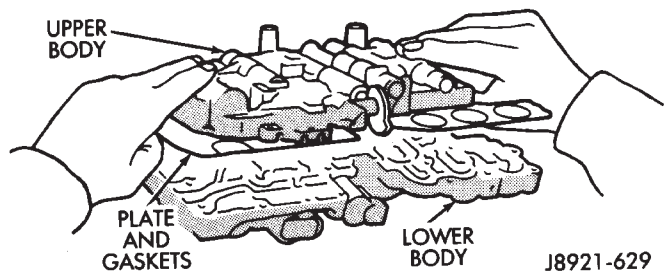

Fig. 6 Upper Body, Plate And Gaskets
- (4) Carefully lift and remove upper body, plate and gaskets from lower body (Fig. 6).
- (5) Disassemble and overhaul upper and lower body sections as outlined in following procedures.